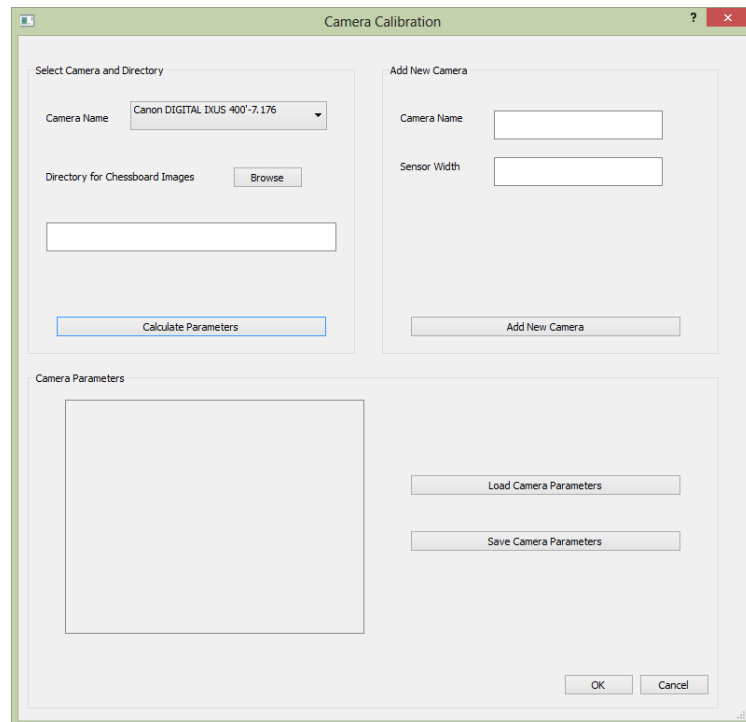

Fig 5: Camera Calibration Window
- d) Click on *Camera Calibration* in main menu to open the Camera Calibration window (Fig 5).